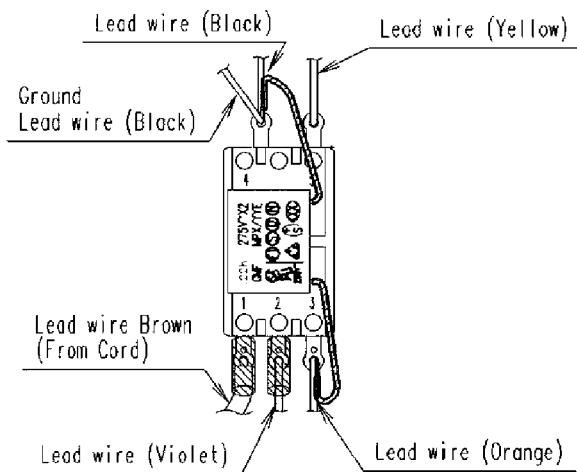

Figure 10
1. Install leadwire Black, Yellow, Violet, Orange, Ground lead wire and lead wire brown (from power cord) with a main switch and a capacitor as figure 10.